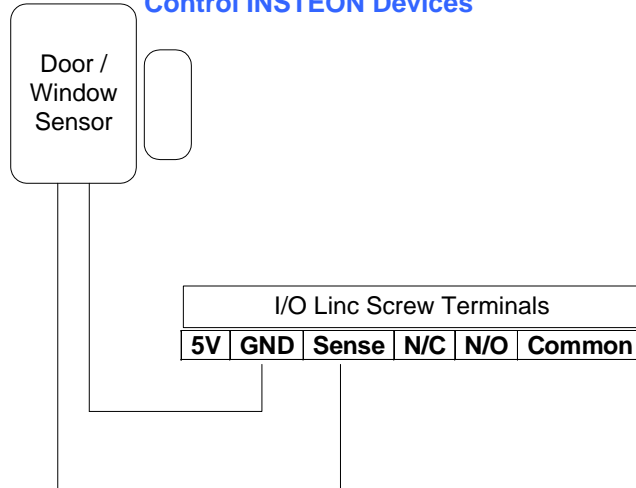

Figure 1
- 2) Connect 1 sensor wire into I/O Linc's GND terminal (see Figure 1)